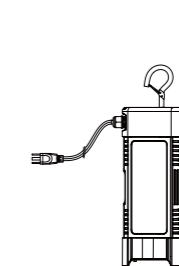

Figure 1
1. Screw the hook into lamp base.(Figure 1).